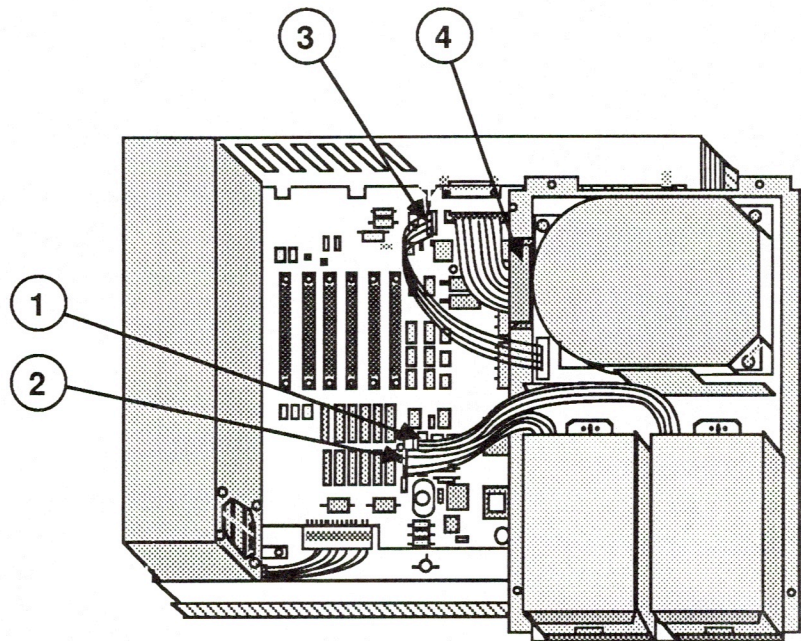

FIGURE 3
3. Disconnect the drive cables. Disconnect the cable from disk drive 1 (Figure 3, #1). Disconnect the cable from disk drive 2 (Figure 3, #2).
4. Disconnect the power connector that runs to the SCSI hard disk (Figure 3, #3).
5. Disconnect the SCSI hard disk cable from the hard disk (Figure 3, #4).
2. Connect the power connector that runs to the SCSI hard disk (Figure 3, #3).
3. Connect the SCSI hard disk cable to the hard disk (Figure 3, #4).
4. Connect the drive cables. Connect the cable from disk drive 1 (Figure 3, #1). Connect the cable from disk drive 2 (Figure 3, #2).